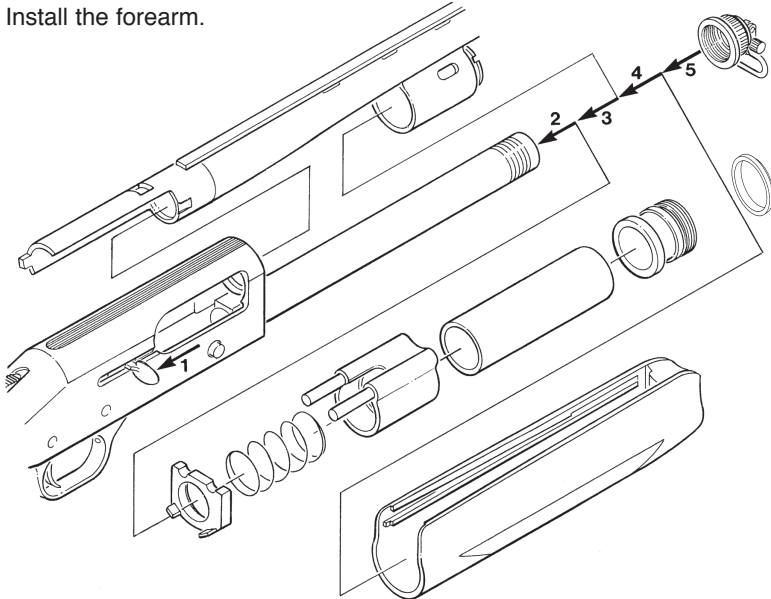

Figure 17
The gas system includes the magazine tube, seal ring*, gas piston assembly, spacer tube, gas system return spring, and gas cylinder portion of the barrel (Figure 17). These parts should be thoroughly cleaned using solvent. A stiff brass bristle brush is useful for removing stubborn deposits.
1. Grasp the operating handle and lock the action in the “OPEN” position (Figure 17).
When interchanging barrels (combo models) or reinstalling the original barrel onto the firearm, YOU MUST ensure that the gas piston and seal ring* are present on the magazine tube prior to installing the barrel (see Figure 17). If the gas piston and seal ring* are not present on the magazine tube, remove them from the gas cylinder portion of the barrel that was on the firearm previously and place them onto the magazine tube as shown in Figure 17. Failure to do so may result in a dangerous malfunction, damage to the firearm and injury to the shooter and other persons. The firearm’s owner must accept full responsibility for the correct reassembly and functioning of the firearm after any disassembly or replacement of parts.